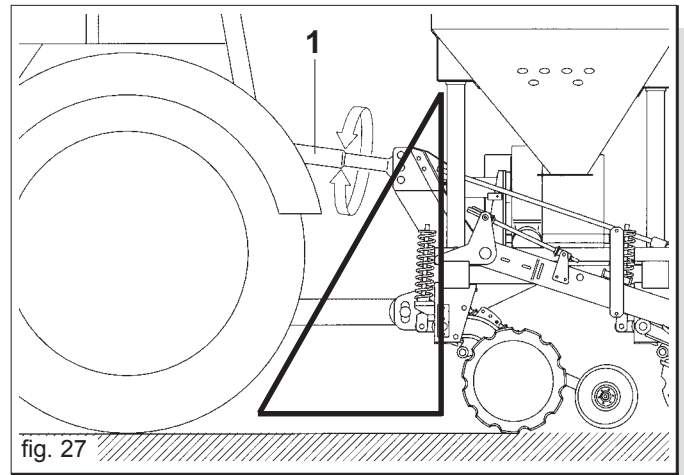

fig. 27
a) the arm length of the third point for a carried machine (1, Fig. 27);